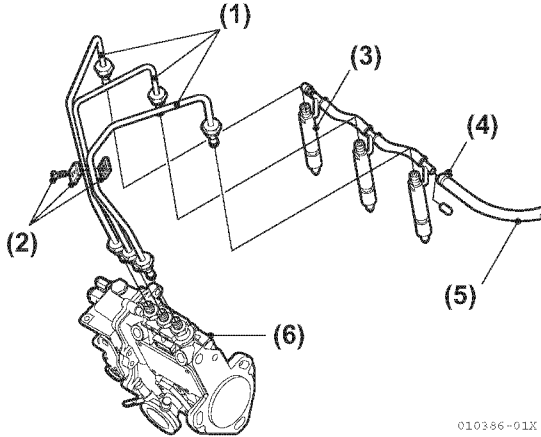
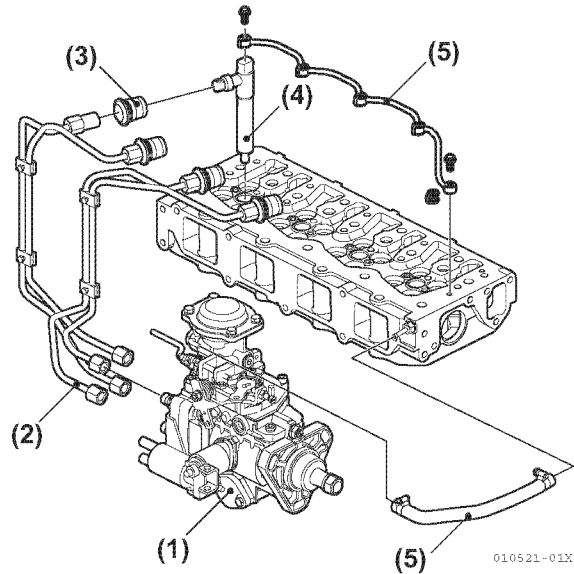

Figure 5-32
Figure 5-34
27. Remove the fuel injection line (Figure 5-32) thru (Figure 5-34):